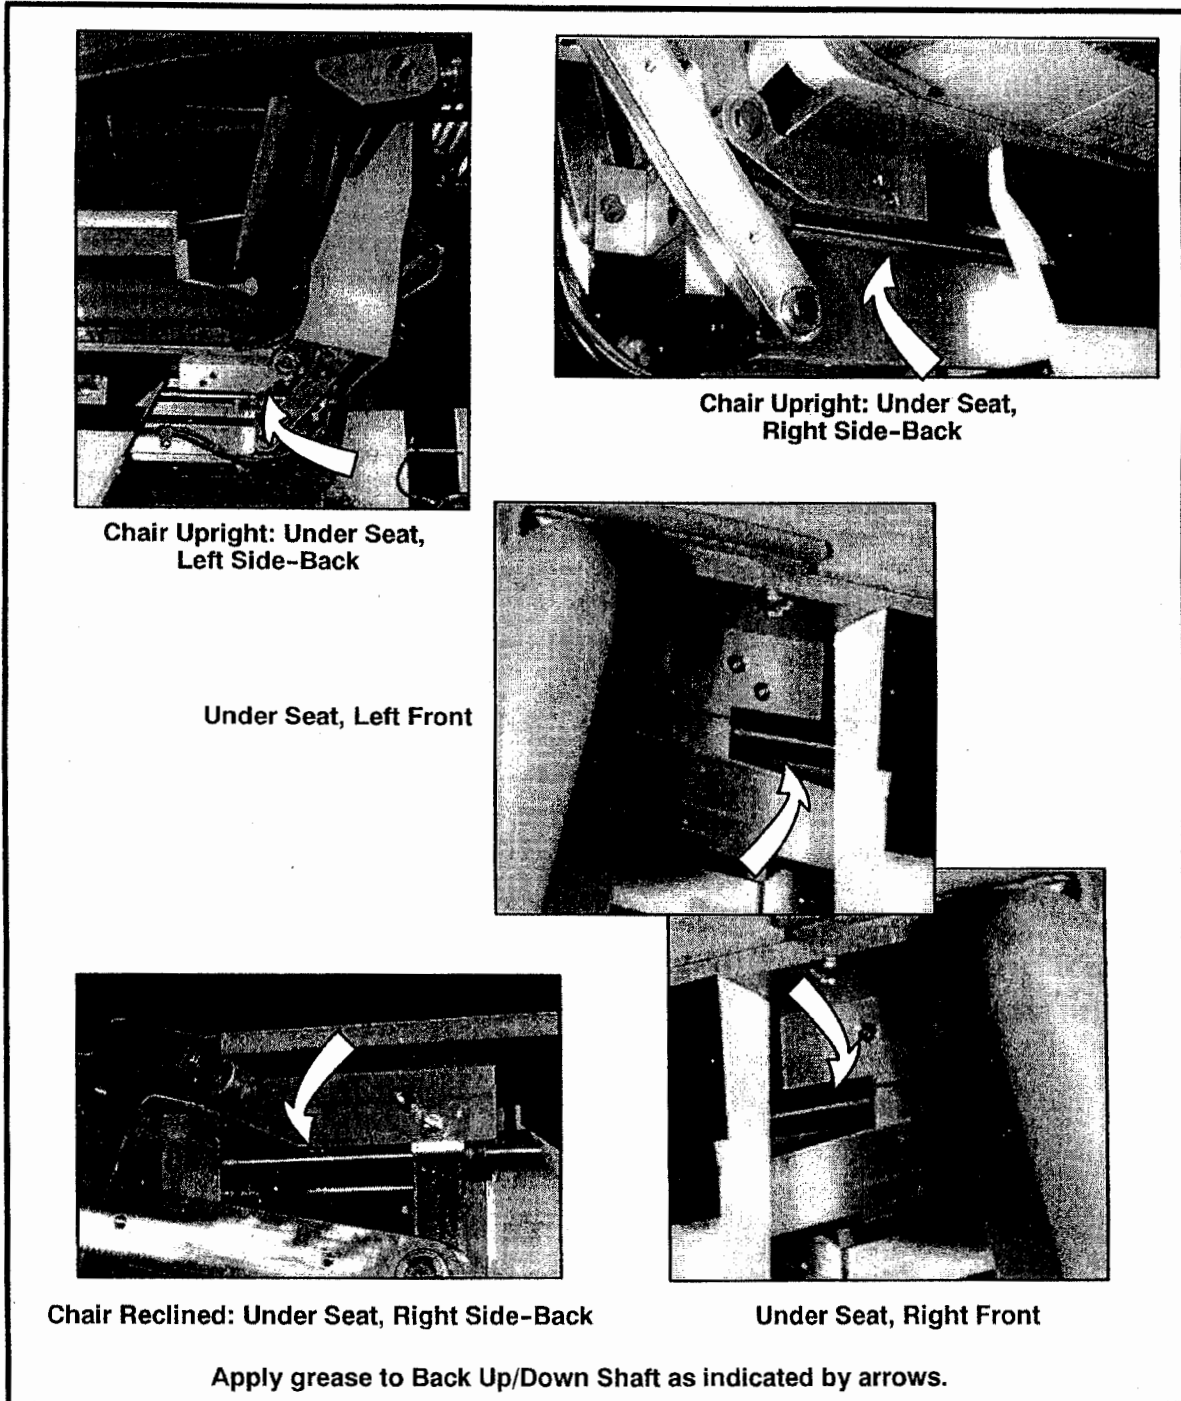

Figure 2-8. Lubricating the Back Up/Down Slide Shaft Assemblies
6. Apply a very thin coating of Extreme Pressure Lube grease (Global Surgical part number: ), supplied with the chair, to the Back Up/Down Slide Shaft Assembly on both sides of the chair. Refer to Figure 2-8 on Page 12 and follow the steps below.